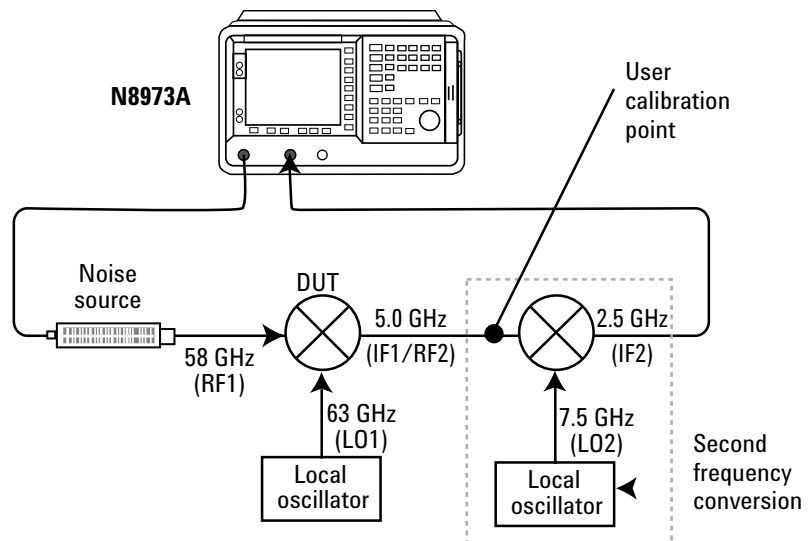

Figure 21. Double conversion measurement setup
15. Connect the calibration noise source directly to user calibration point shown on Figure 21 and perform a NFA user calibration.